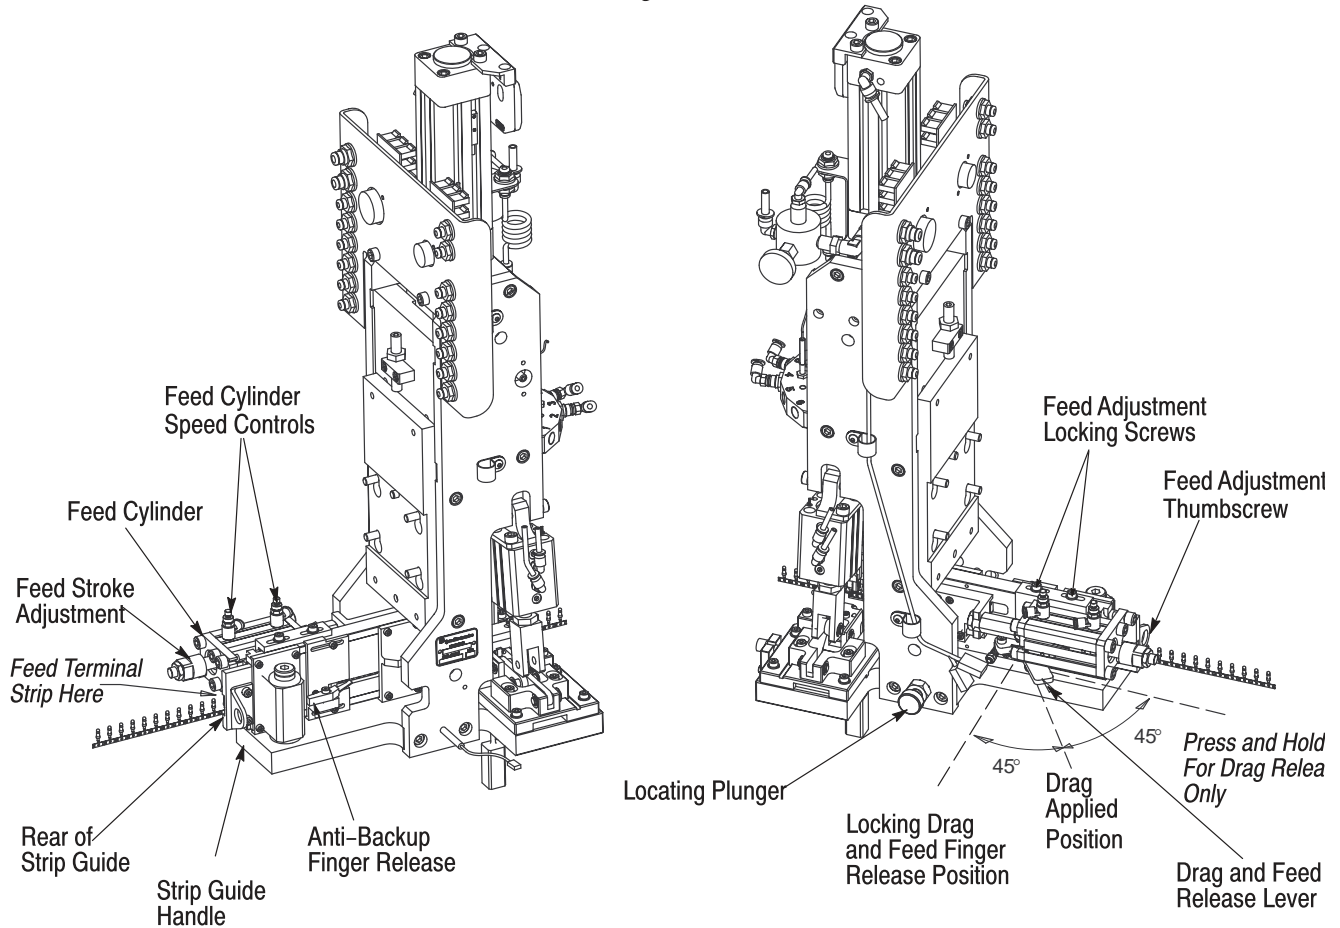

Figure 8
From the rear of the machine, rotate the drag release lever forward until it latches to release both the drag and disengage the feed finger. Refer to Figure 8. Press the rear of the anti back-up finger to disengage the finger, and pull the remaining terminal strip from the rear of the tool set. Return the drag lever to it's applied (run) position.
7. Continue to advance the terminal strip until it appears at the front of the strip guide, then retract it slightly until the feed finger engages the terminal strip. Refer to Figure 8.
8. Release the drag release lever so that it returns to the drag applied position. See Figure 8.
- b. From the rear of the machine, rotate the drag release lever forward until it latches, to release the drag and disengage the feed finger. See Figure 8.